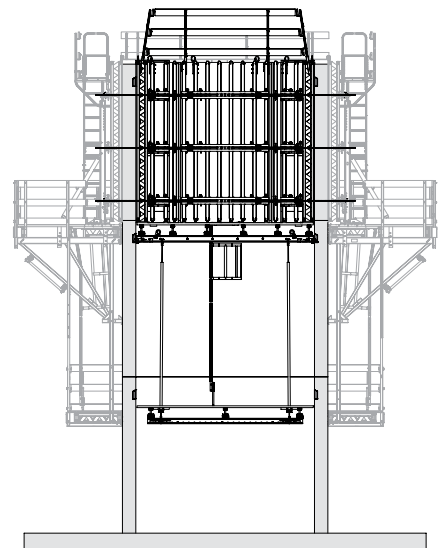

Fig. A4.06
13. Check it is the correct support for the Shaft Platform. (Fig. A4.06)